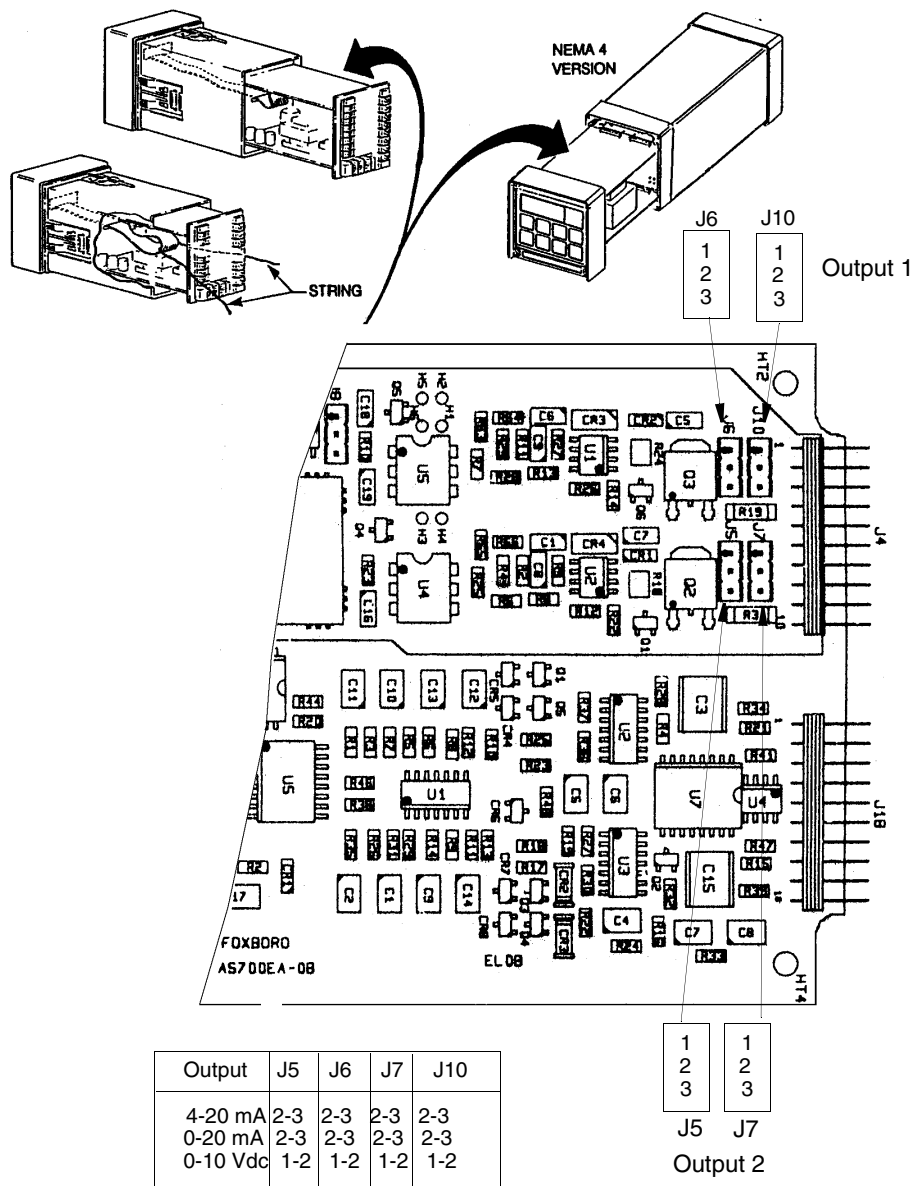

Figure 21. Jumpers for Changing Analog Output
4. Refer to Figure 21 to identify jumper locations.
On the plastic enclosure, a string must be rigged through the loop in the ribbon cable such that when the board assembly is slid into the housing, the string/ribbon cable may be pulled back simultaneously, thus preventing damage to the cable. See Figure 21.